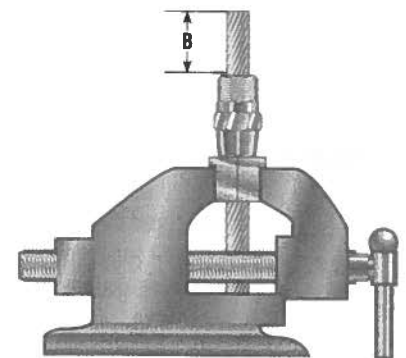

Figure 1
STEP 1: Slide the sleeve over the rope, secure the rope in the assembly blocks and tighten the vise. (Figure 1) If the Esmet assembly kit is not available, assembly blocks with a hole 1/32" less than the diameter of the rope can be made. If the rope has seizing, it may be easier to install the sleeve after the seizing has been removed. Before tightening the vise, be sure enough rope extends beyond the sleeve. (see dimensions in Figure 1).
2A: If the rope has a plastic coated wire core, remove the plastic coating. Push the cable up through the sleeve. Unlay the cable strands and remove the plastic coating a minimum distance of 1 1/2 times the length of the plug. Relay the strands back to their original position in Figure 1.